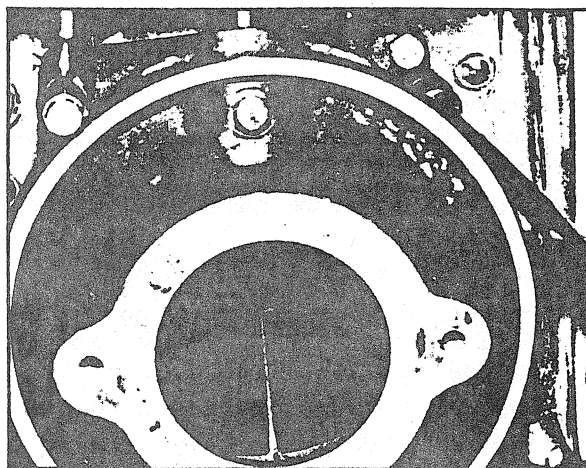

FIGURE 6
- Remove the two (2) screws on the bracket holding reverse cable on tiller.
- Using a ½" socket wrench, remove the four (4) capscrews from the bowl plate/suction piece (fig. 6).